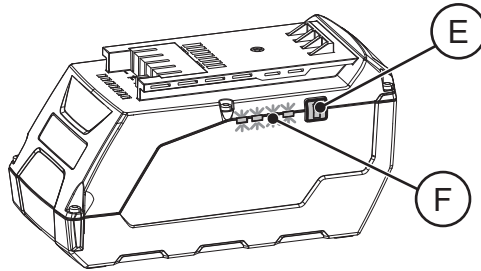

FIG. 17
The battery is equipped with a display with LED indicators (F). Press the button (E) to activate the display (FIG. 17).